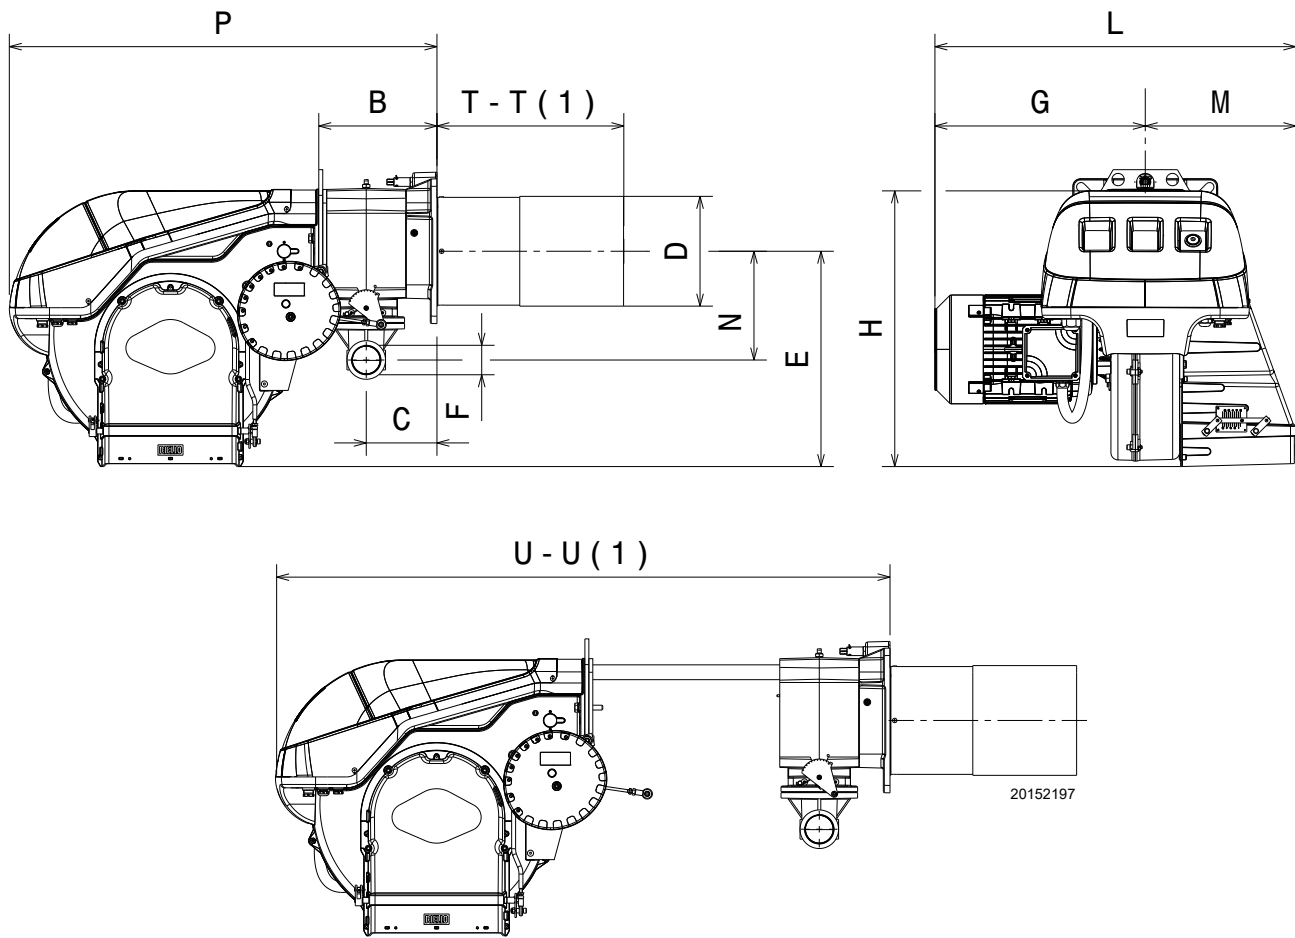

Fig. 1
The maximum dimensions of the burner are given in Fig. 1.
* The maximum depth of the boiler door is referred to dimension "I". (Fig. 1 on page 8).